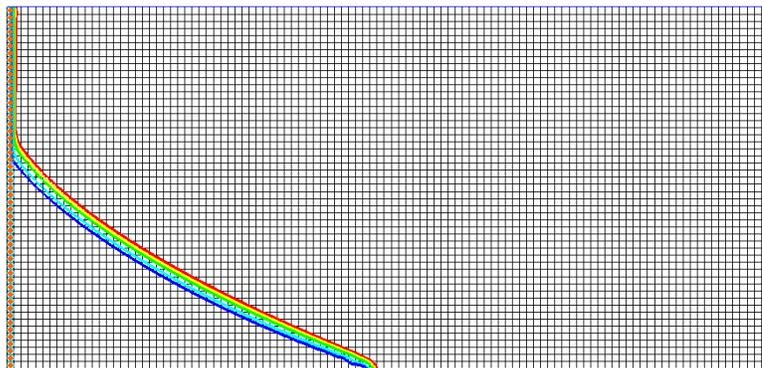

Figure 11 Time step 4 (after 15 minutes)
3. Select time step 4 in the time step window (Figure 11).